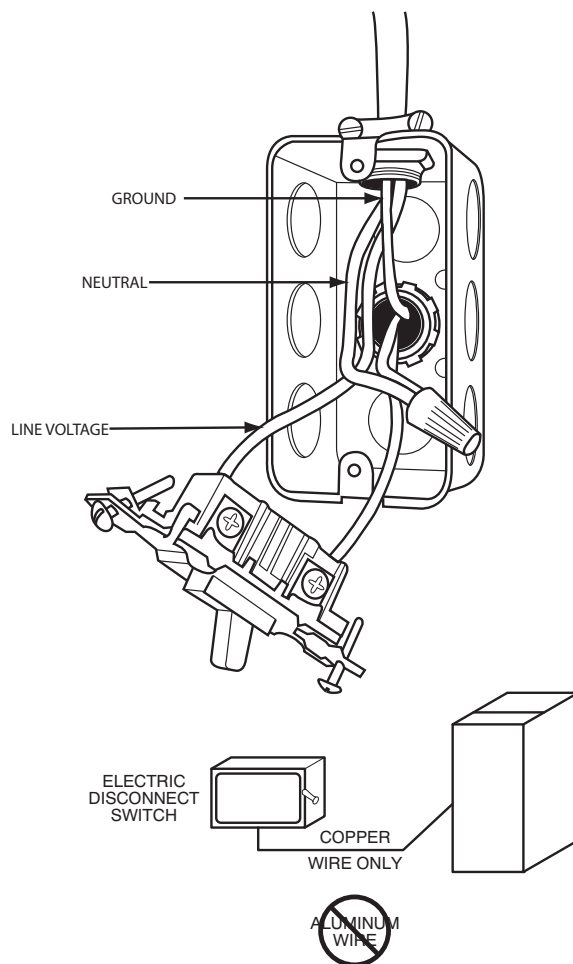

Fig. 34 - Field-Supplied External Electrical Box on Furnace Casing
Do not connect aluminum wire between disconnect switch and furnace. Use only copper wire. See Fig. 34.
1. Drill two (2) 1/8-in. (3 mm) pilot holes through the dimples in the furnace casing near the 7/8-in. knock-out on the side of the casing. Do not remove the knock-out in the side of the casing.
9. Connect field power and neutral leads to furnace power leads inside the external electrical box as shown in Fig. 34.